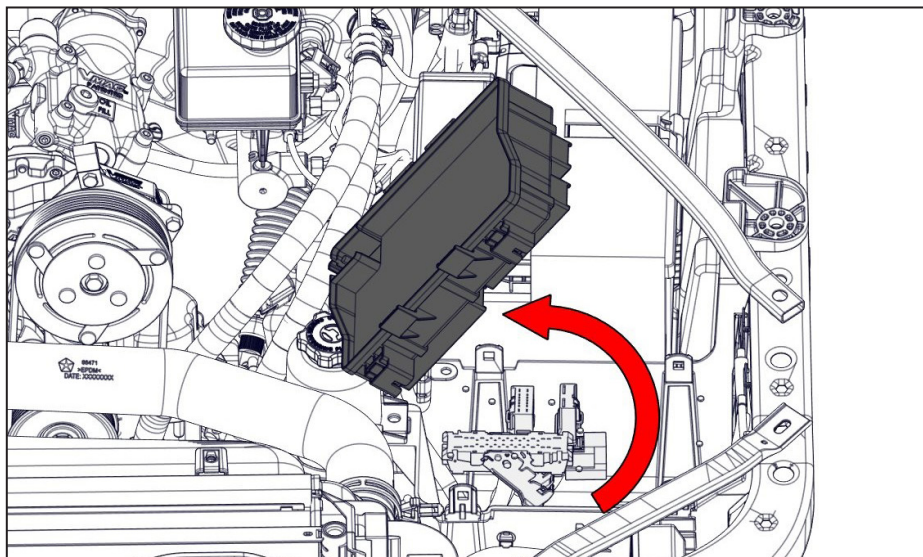

Figure 65 — Remove PDC
- ☐ Remove the PDC housing from the bracket by simultaneously squeezing the (x4) latches and pulling the PDC housing up out of the bracket (Figure 65).